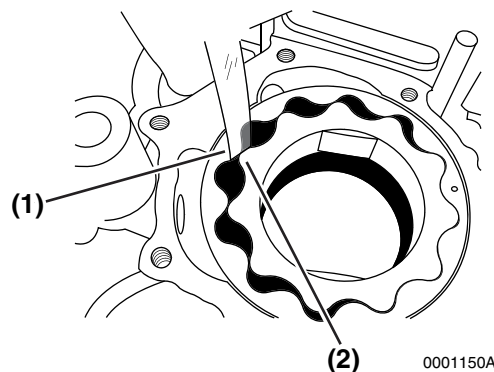

Figure 9-9
Determine the outer rotor to inner rotor tip clearance. Insert a feeler gauge between the top of an inner rotor tooth **(Figure 9-9, (1))** and the top of an outer rotor tooth **(Figure 9-9, (2))** and measure the clearance.